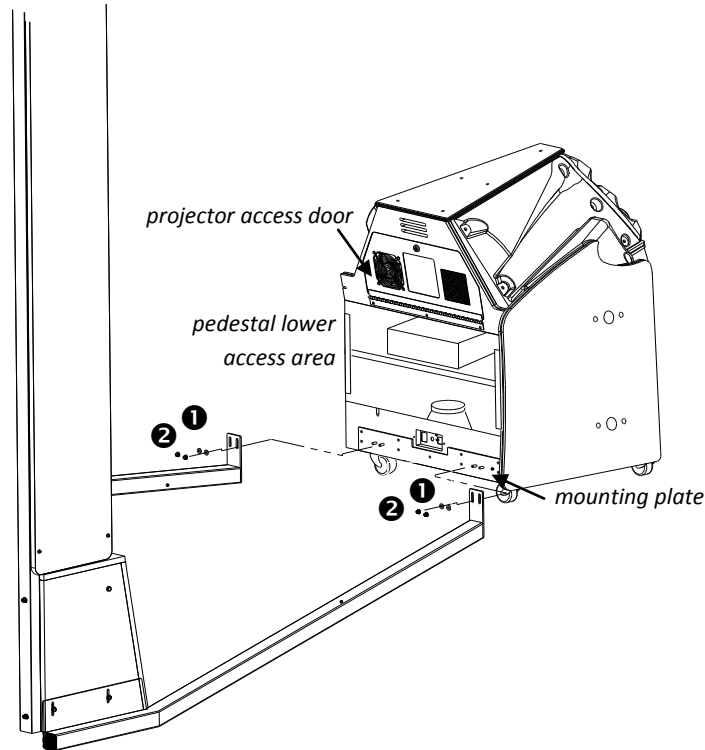

Figure 8: Floor supports attaching to gun pedestal, with lower access door removed.
6. Position gun pedestal so that posts on gun pedestal mounting plate protrude through holes on front flanges of floor supports. *See Figure 8.*